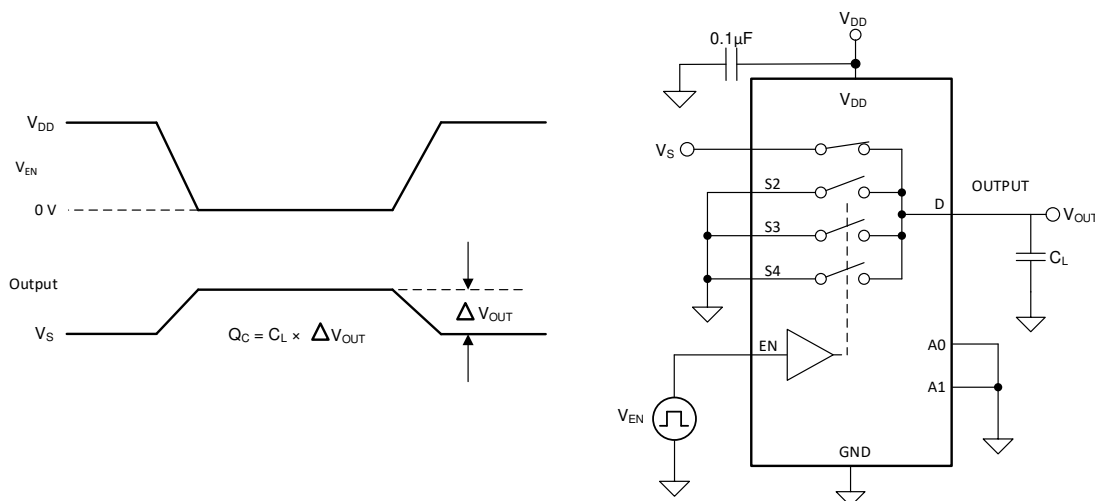

Figure 6-7. Charge-Injection Measurement Setup
The TMUX1104 has a transmission-gate topology. Any mismatch in capacitance between the NMOS and PMOS transistors results in a charge injected into the drain or source during the falling or rising edge of the gate signal. The amount of charge injected into the source or drain of the device is known as charge injection, and is denoted by the symbol  $Q_C$ . Figure 6-7 shows the setup used to measure charge injection from source ( $S_x$ ) to drain (D).